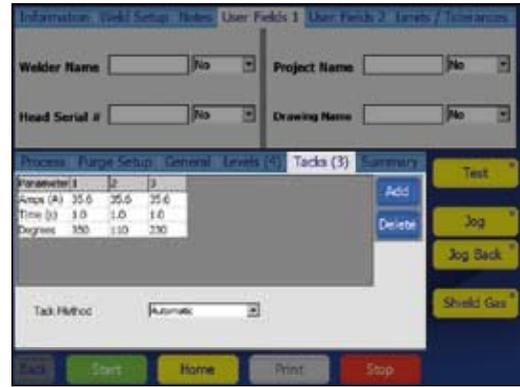

Fig. 30—Tacks Tab
<p>Tacks (X) (Fig. 30)</p>	<p>The M200 power supply supports weld procedures with tacks—nonpenetrating spot welds used to hold work pieces in place. The number in parentheses indicates the number of tacks specified for the weld procedure.</p> <p>To set the tack method, choose from the options available in the drop-down box next to the user field:</p> <p>Automatic The entire selected weld procedure will be completed when the Start button is pressed on the Process tab.</p> <p>Tacks Only Only the tacks portion of the selected weld procedure will be completed. When the user returns to the Process tab, a Start Tacks button will appear under the Weld Head Installed graphic. Press this button to complete the tacks. The Start button will change to Start Levels. Press this button to begin the remainder of the weld procedure.</p> <p>To add tacks, press the top of a column to highlight it, then press the Add button on the right side of the window. A new column containing a copy of the selected column's data will be added after the selected column. Repeat for additional tacks.</p> <p>To delete tacks, press the top of the column or columns to select them, then press the Delete button on the right side of the window.</p> <p>Use the onscreen keypad to enter or change a parameter.</p> <p>See page 65 for more information about weld procedures using tacks.</p>